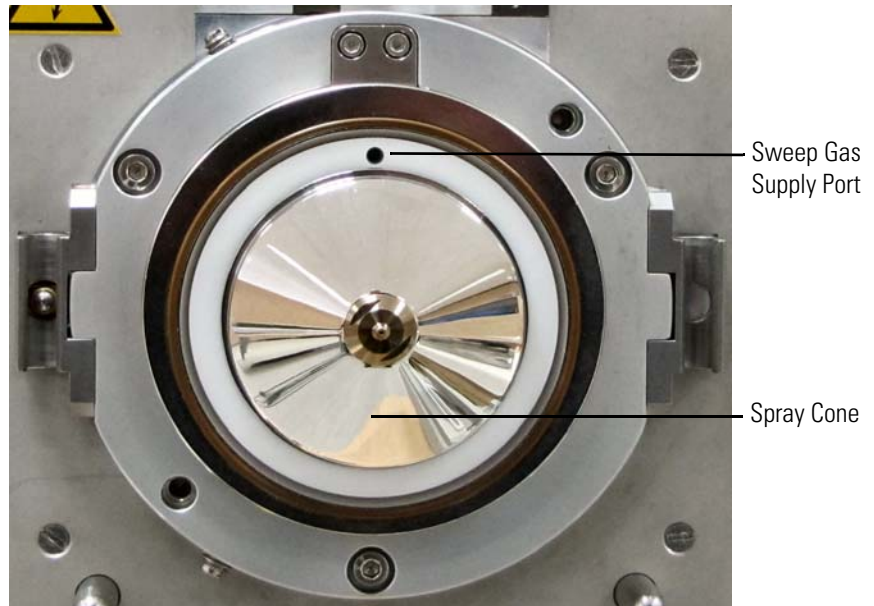
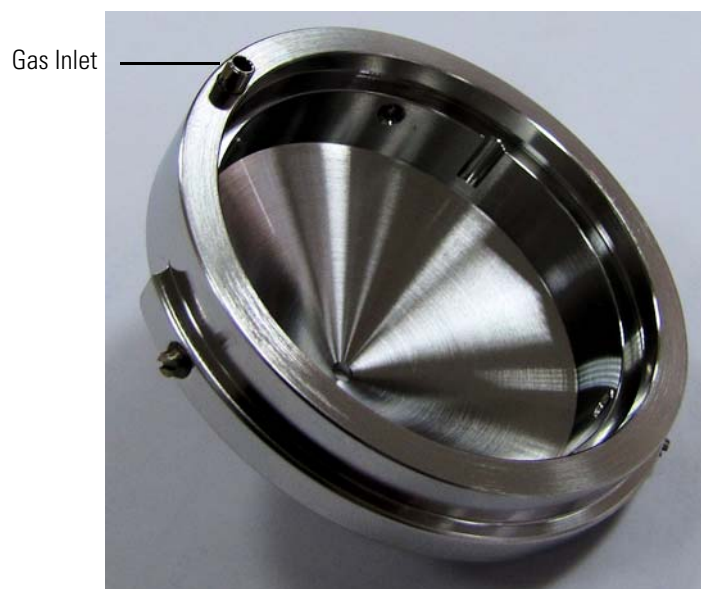

Figure 6-1. Sweep gas supply port in the API cone seal
Figure 6-2. Ion sweep cone, showing the gas inlet
- b. Grasp the outer ridges of the ion sweep cone and pull the cone straight off of the API cone seal. See Figure 6-1. You might need to loosen the set screws on the ion sweep cone in order to remove it.
- a. Carefully align the gas inlet (Figure 6-2) on the ion sweep cone with the sweep gas supply port (Figure 6-1) in the API cone seal. Firmly press the ion sweep cone into position.
Note the location of the sweep gas supply port in the API cone seal. The gas inlet on the ion sweep cone is placed in this port. See Figure 6-1 and Figure 6-2.